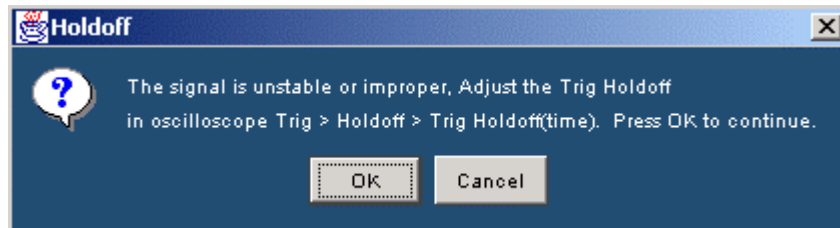

Figure 157: Holdoff message box
4. Press OK in Figure 157 Holdoff message box to continue the peak-to-peak jitter measurement and Cancel to stop running the measurement.